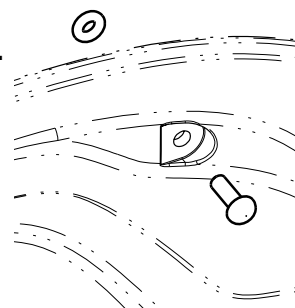

Figure 3
10. Install the lens by using the 6 tamper-proof screws (1). To insure water tightness, gasket screws (x6) have to be installed from the inside (see figure 3). Tighten the screws approximately 5 Lb.-Ft. DO NOT OVER TIGHTEN.